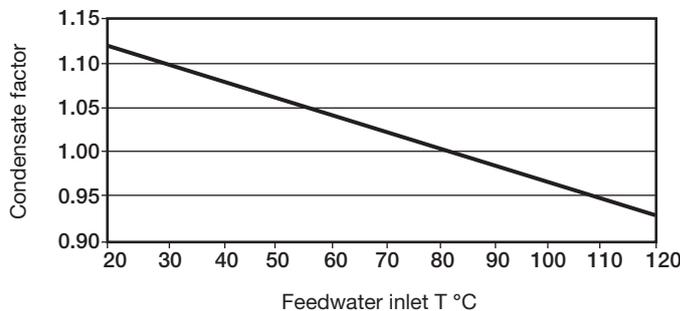

Fig. 3
- Check the feedwater inlet temperature and find the relevant corrective factor on Figure 3. Multiply it by the real clean steam flowrate (lines refer to a feedwater temperature of 85°C, variations from this condition will vary the production of the unit)
- From Figure 3. 25°C feedwater temperature means 1.11 as corrective factor